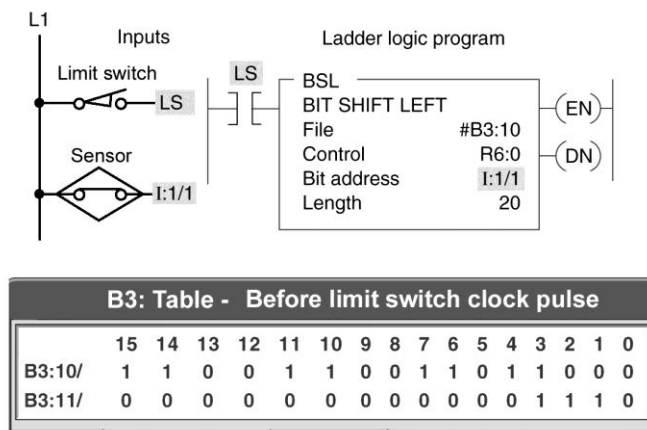

Figure 12-27 Bit shift left (BSL) program for assignment 10.
10) The bit shift left (BSL) program of Figure 12-27 is described in the text. Prepare an I/O connection diagram and ladder logic program that will simulate its operation. Use addresses that apply to your PLC installation. Enter the program into the PLC, and verify its operation.